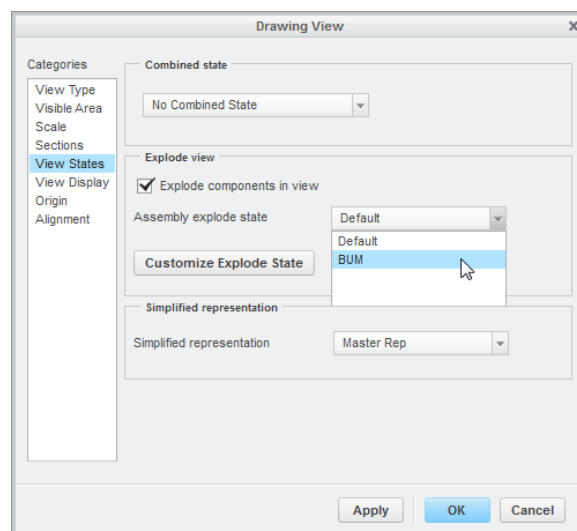

**Figure 13: Updated family table.**
- 5) Add new values for family table instances (Figure 13) and accept family table.